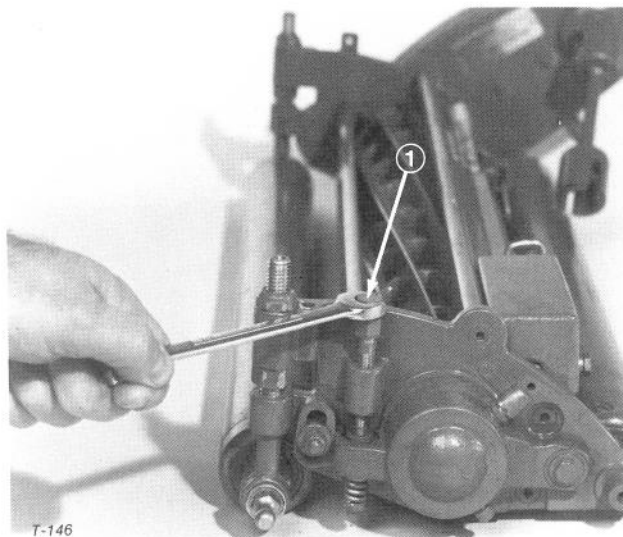

Figure 11
2. Adjust reel to knife clearance with adjusting screws at each end of unit (Fig. 11). NEVER ALLOW BEDKNIFE TO BEAR HEAVILY AGAINST REEL.